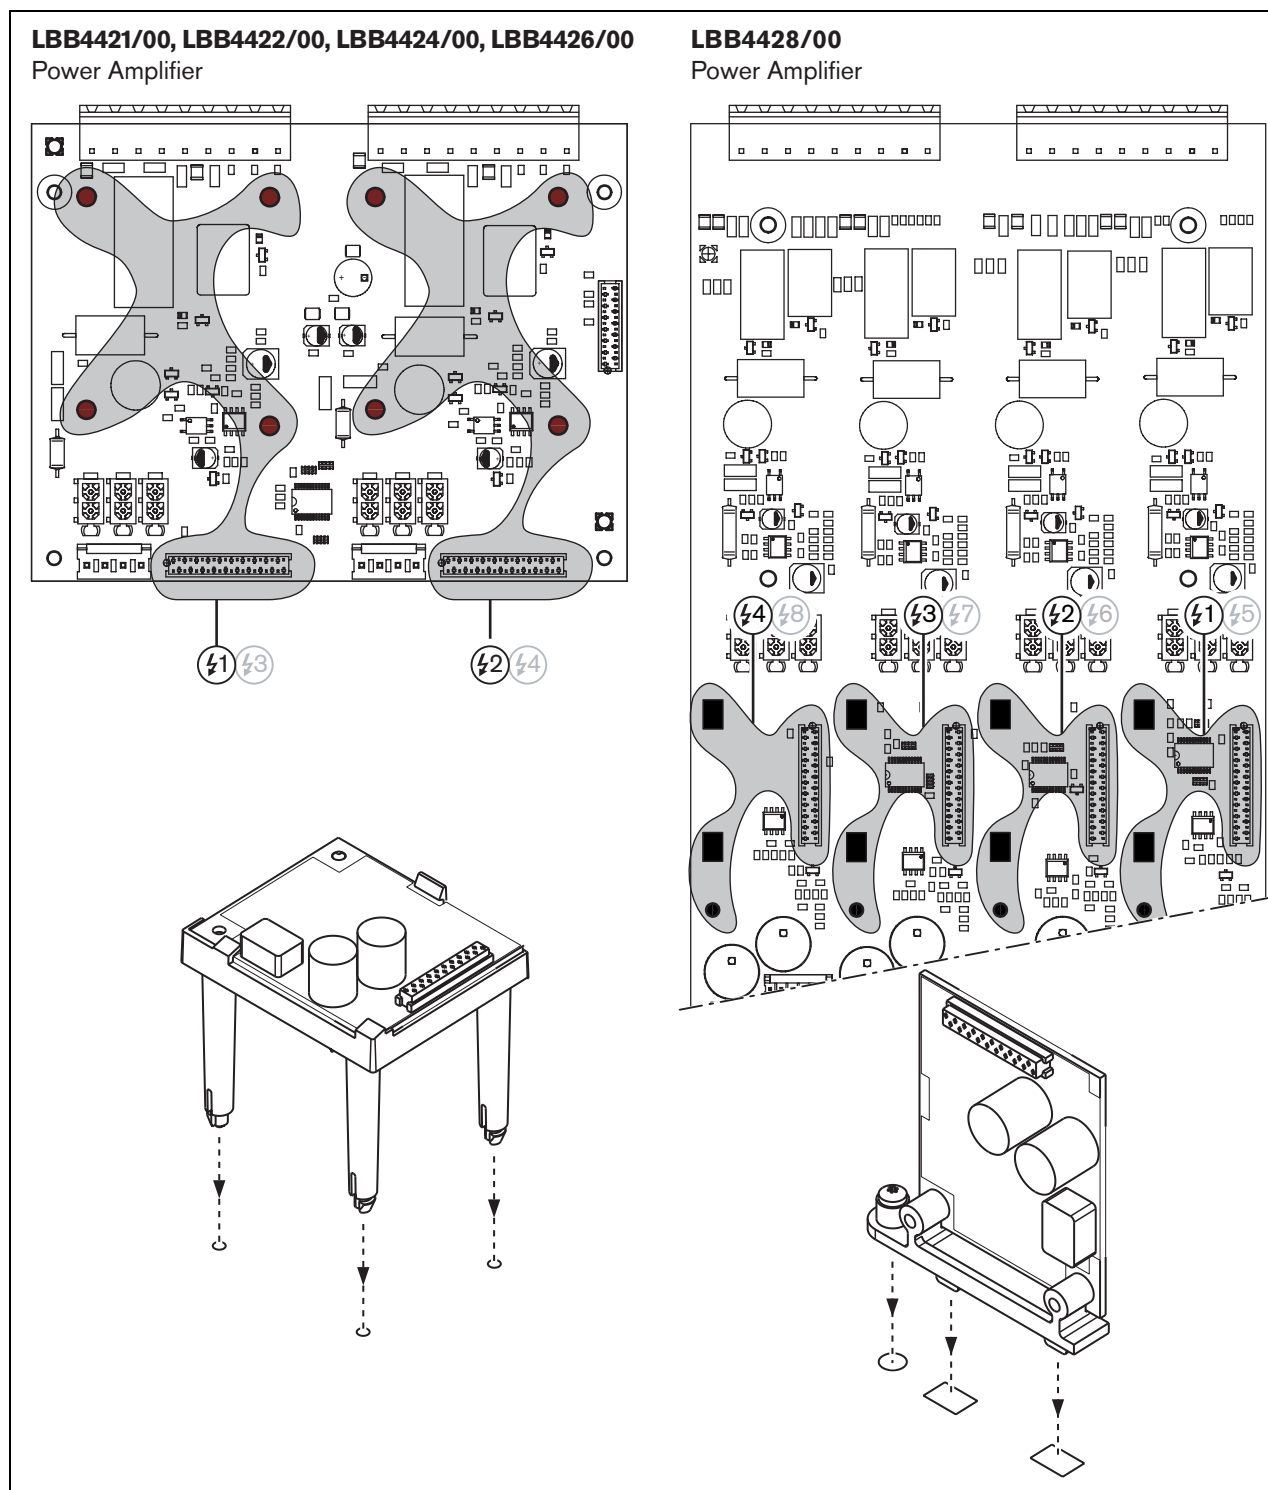

figure 8.4: Supervision-master mounting
- 1 Remove the lid from the power amplifier and locate the output board (see figure 8.4).
- 2 The supervision-master is delivered with a plastic bracket. Insert the PCB of the supervision-master into the plastic bracket (see figure 8.4).
- 3 The supervision-master and plastic bracket assembly fit in the holes in the output board. Fit the bracket that contains the supervision-master into the holes in the output board (see figure 8.4)